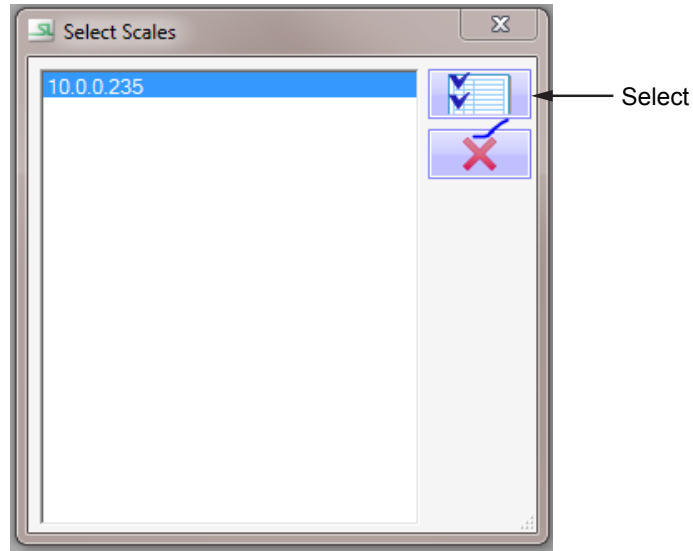

Figure 53-1
1. Select Comms, Receive From Scale from the menu or select the Receive From Scale icon from the tool bar. The Select Scales window will display. See Figure 53-1.